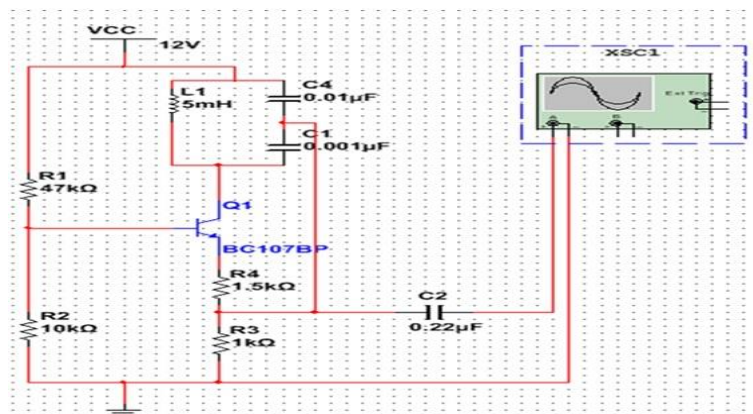

Figure 11.2: Colpitts oscillator
11.2 Design Colpitts oscillator as shown in Figure 11.2 and determine the frequency of oscillation in MULTISIM